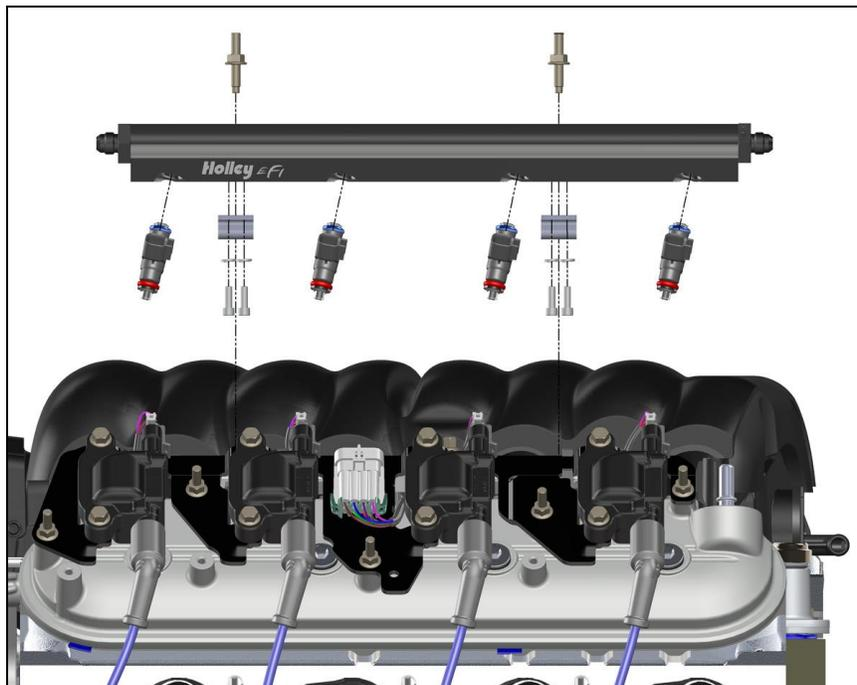

Figure 5
15. Install each of the fuel rail/injector assemblies onto the intake manifold. Make certain each of the O-rings is seated at both ends and that none of the O-rings were cut (**Figure 5**).